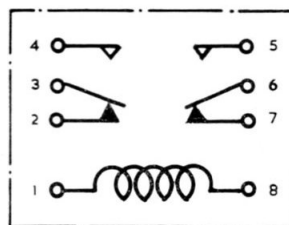

Fig. 3. Circuit diagram
5. In its normal unoperated position (*fig. 3*), contacts 2 and 3, 6 and 7 are made. When the coil is energized, the lower end of the armature plate is pulled inwards across the pole gap, the upper part above the hinge moving outwards, so breaking the normally-made contacts and making contacts 3 and 4, 5 and 6. When the coil is de-energized, the